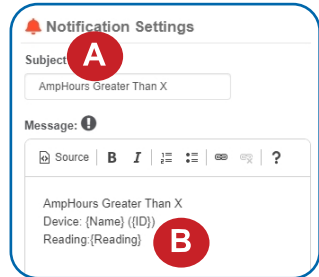

Figure 17
- A.** Input the subject for the notification. See Figure 17.
- B.** Customize the message body for the notification. See Figure 17.